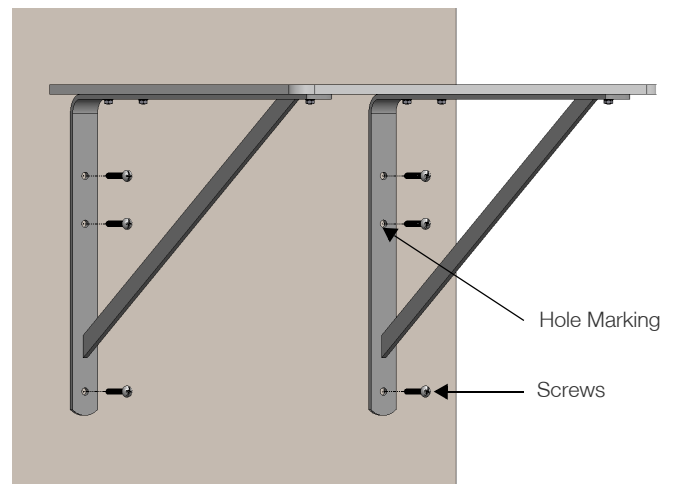

Figure 11. Mounting bracket to wall
2. Hold the wall mounting bracket at the desired position on the wall and mark the six boreholes for fixing the wall mounting bracket. Use an 8 mm or 0.31 inch twist drill to make the holes and put in the six S8 plugs which are supplied with the wall mounting bracket (refer to **Figure 11**).